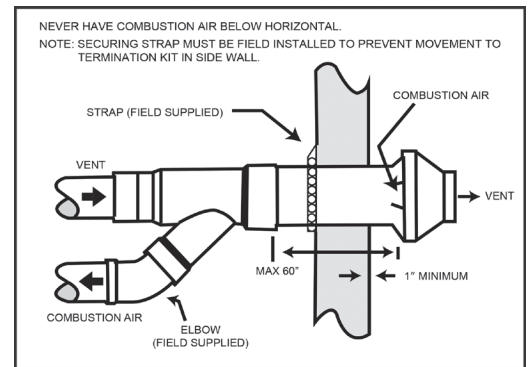

Figure 6 - Sidewall Installation
6. Secure assembly to structure using field supplied metal strapping or equivalent support material (see Fig. 6).
NOTE: If assembly needs to be extended to allow sidewall thickness requirement, the two pipes supplied in the kit may be replaced by using the same diameter, field supplied SDR-26 (D2241) pipe. Do not extend Dimension D to more than 60" (see Fig. 6). **DO NOT USE COUPLINGS TO EXTEND PIPE.**
7. Cement air inlet and exhaust vent pipes to concentric vent termination assembly. See Fig. 6 for proper pipe attachment.